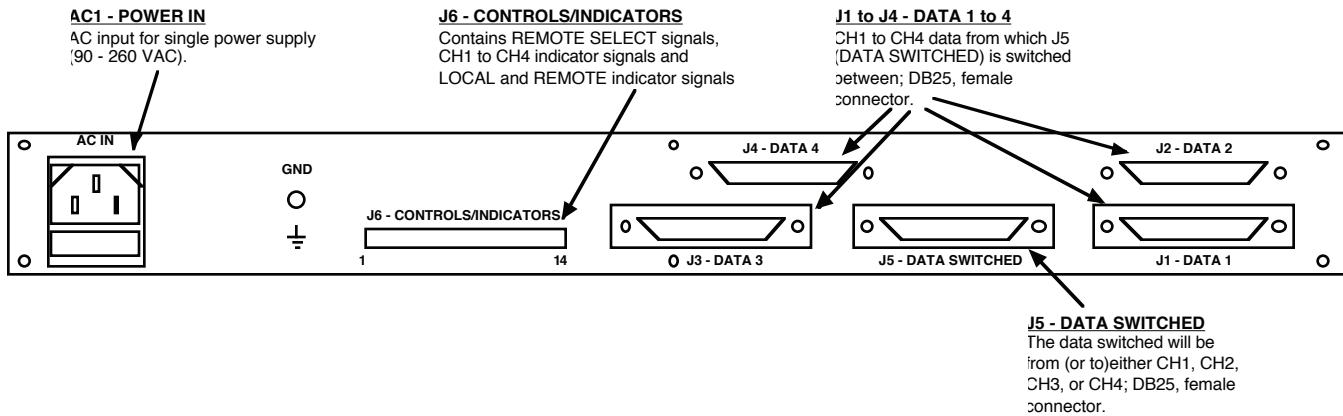
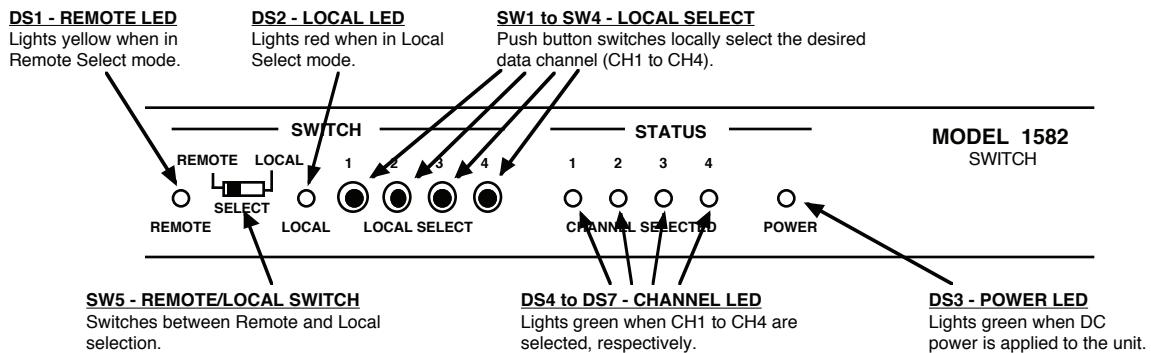

FIGURE 2.2 1582-45L Rear Panel Signals
FIGURE 2.4 1582-45L Front Panel Controls and Indicators
2.2 Rear Panel Signals - The input/output and control/indicator connectors located on the rear panel are shown in Figure 2.2. In order to select CH1 to CH4 remotely, switch SW5 on the front panel must be set to REMOTE operation. With SW5 set to REMOTE operation, the local push button switches on the front panel will be disabled.
2.3 Front Panel Controls and Indicators - Figure 2.4 shows the controls and indicators located on the front panel. When switch SW5 is set to REMOTE operation, the push button selection switches, SW1-SW4, on the front panel are disabled. When switch SW5 is set to LOCAL operation the push button switches, SW1-SW4, will be enabled and all remote control will be disabled.
- 2.) Connect data to the DB25 DATA connectors, J1 - J5 (Figure 2.2).
- 3.) Connect to signals on the CONTROLS/INDICATORS connector, J6, as desired (Figure 2.2).
- 4.) Connect 100-240 $\pm 10\%$ VAC, 47 - 63 Hz to AC IN on the back panel (Figure 2.2).
- 5.) Be sure the POWER LED, DS3, is on (Figure 2.4).
- 6.) Set SW5 for REMOTE or LOCAL operation (Figure 2.4).
- 7.) Choose the desired data path either remotely (J6, Figure 2.2) or locally using the push buttons (SW1 - SW4, Figure 2.4) and check for proper data flow and that the appropriate CHANNEL LED (DS4 - DS7, Figure 2.4) is lit.